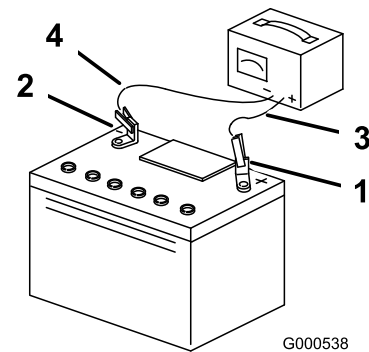

Figure 35
3. When the battery is fully charged, unplug the charger from the electrical outlet, then disconnect the charger leads from the battery posts (Figure 35).